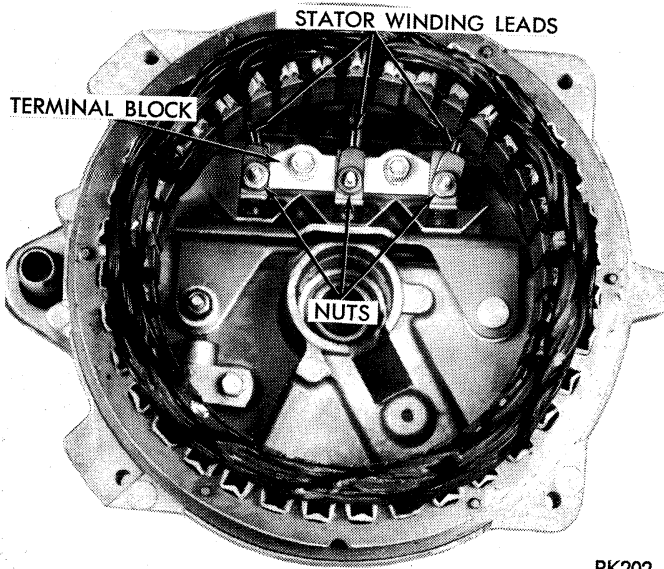

Fig. 46—Removing Stator Winding Leads
- (1) Remove nuts from studs securing stator windings lead to terminal block (Fig. 46).
- (2) Lift off stator winding terminals and **carefully** pry stator assembly from end shield.
- (3) Test rectifiers with a 12 volt battery and a test lamp equipped with a number 67 bulb (4 candle power) by connecting one side of test lamp to positive battery post; other side of test lamp to a test probe with other test probe connected to the negative battery post.